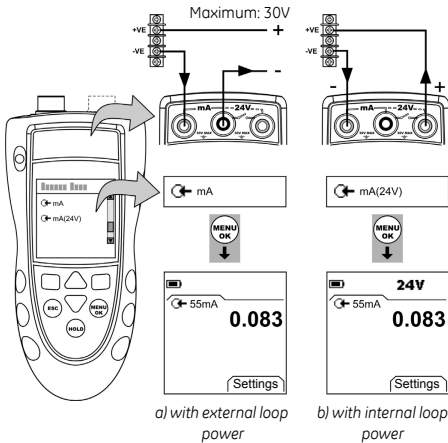

Figure 7: Example configuration - mA measurement
1. Connect the instrument (Figure 7) and, if necessary, adjust the *Set Up* (Table 1).
1. DPI 802/802P only. Connect the instrument to the calibration equipment (Figure 7).